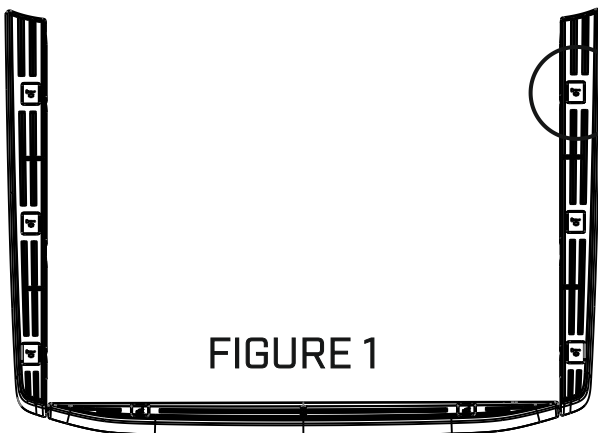

FIGURE 1
1. REMOVE SILLS ON THE LEFT AND RIGHT OF THE TRUCK BED.(SEE FIGURE 1)